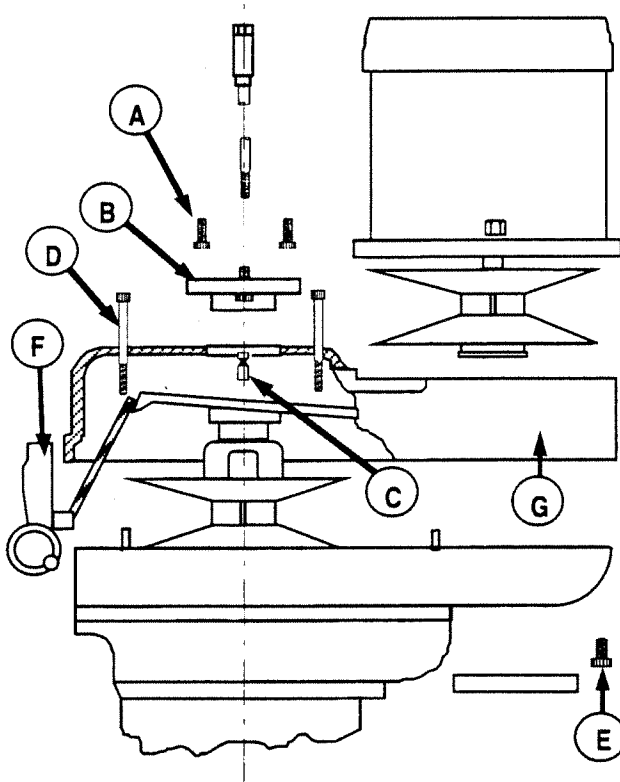

Figure 9-2. Drive Belt Replacement
9.2 DRIVE BELT REPLACEMENT (Figure 9-2)